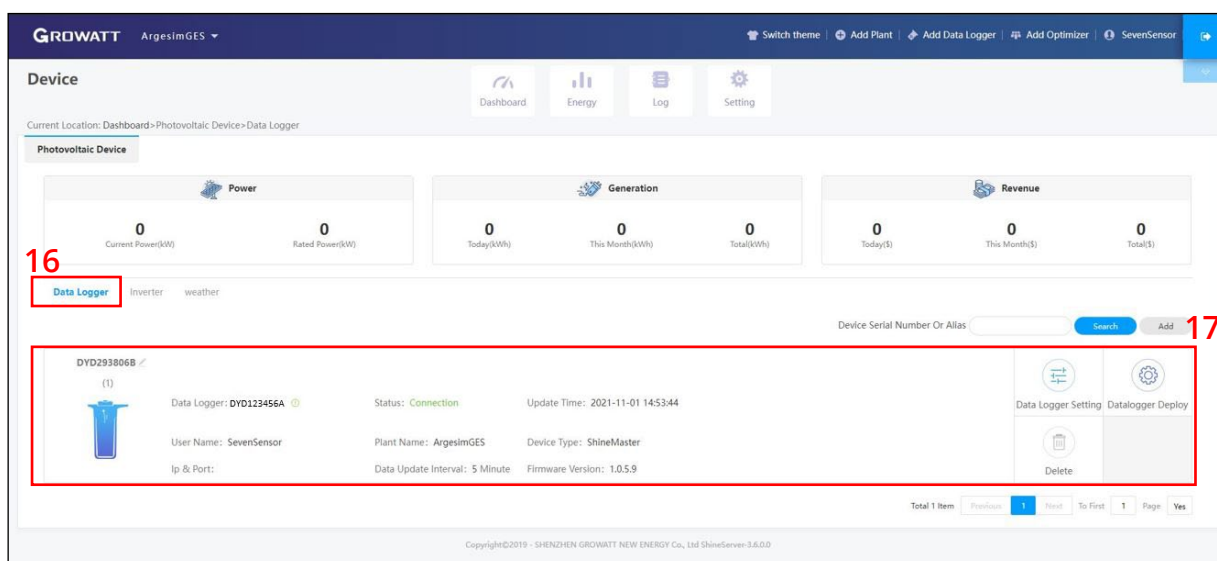

Figure 10: Added Datalogger Devices
Step 16 and 17 : After adding the device, device information will appear in "Data Logger" menu as shown in Figure 10.